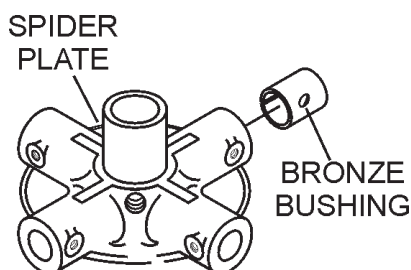

Figure 24. Bronze Bushings
- Examine the bronze trowel arm bushing insert (Figure 24), clean if necessary. Replace bushing if out-of-round or worn.